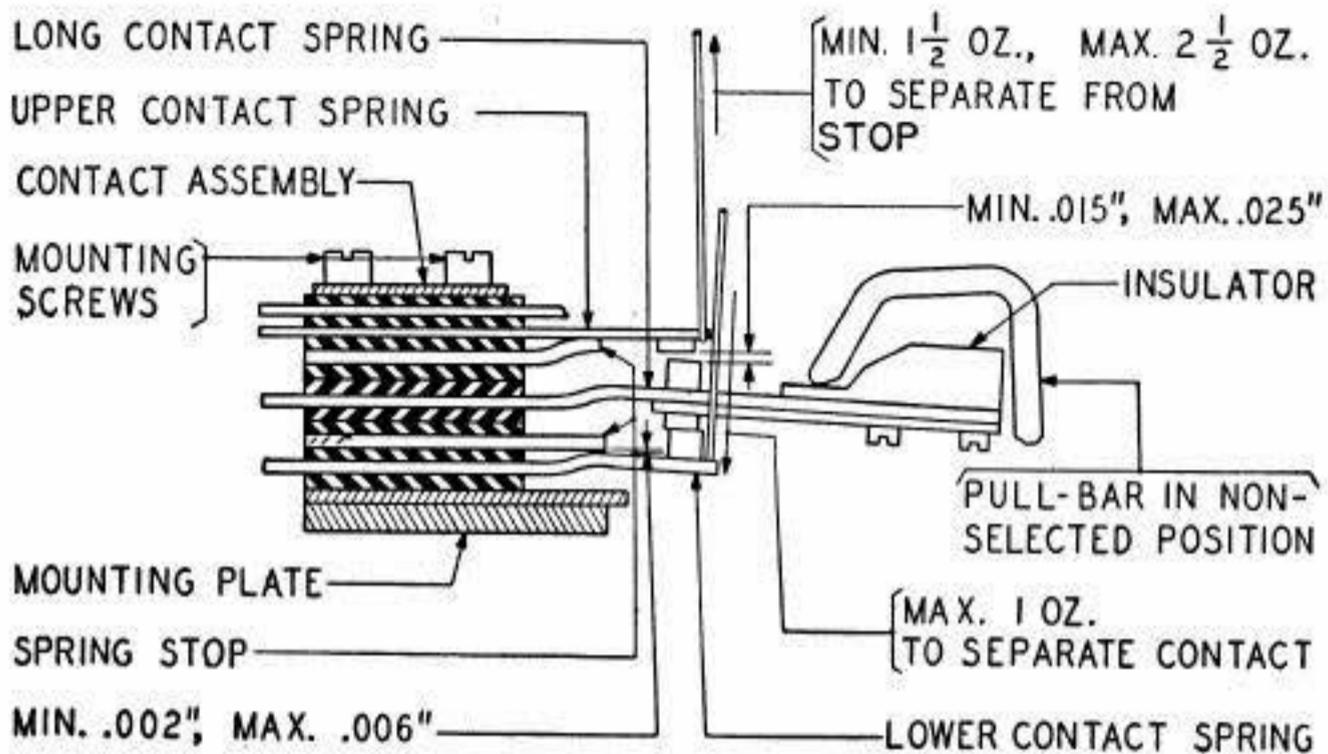

Fig. 27
- (c) There should be a clearance as indicated in Fig. 27 between the long-spring contact and the upper spring contact. **Fig. 27**
(1) To gauge:
- (d) It should require a pull as indicated in Fig. 27 to separate the upper-contact spring from its stop. **Fig. 27**
- (f) There should be a clearance as indicated in Fig. 27 between the lower-contact spring and its stop. **Fig. 27**
- (g) It should require Max 1 oz. to separate the lower spring contact from the long spring contact. **Fig. 27**